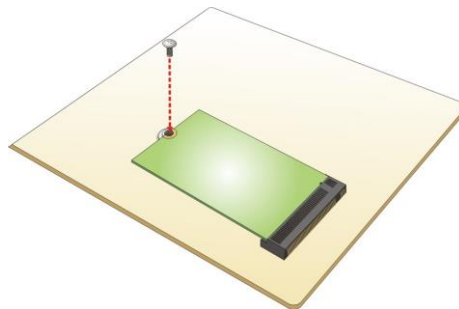

Figure 3-3: Securing the M.2 Module
Step 4: Secure the M.2 module with the previously removed retention screw (Figure 3-3)